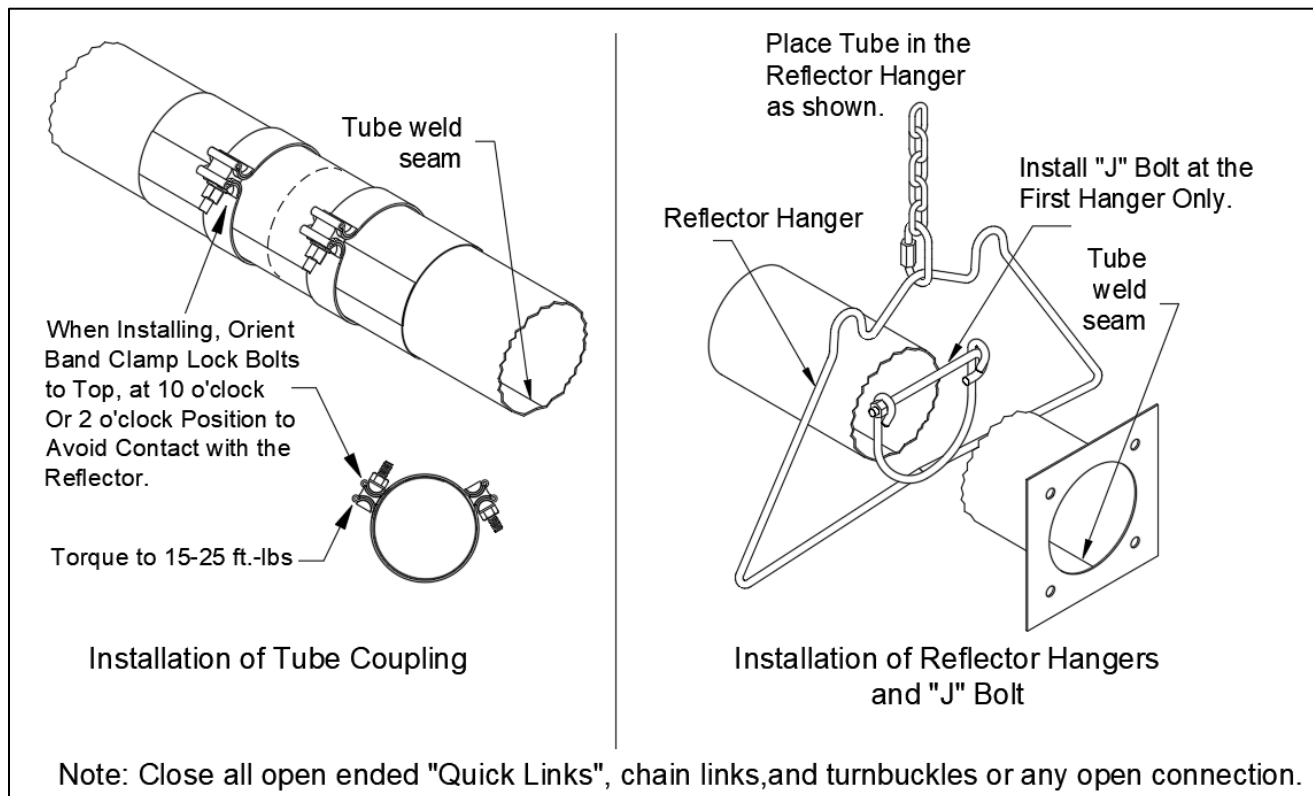

Figure 8: “J” Bolt and Coupling Installations
- Tighten the cradle loops of the first hanger with the “J” Bolt found in the burner box, to snugly hold the combustion tube from rotating see Figure 8.
Note: In order to obtain smoothly sealed coupling liners, tighten each of the coupling bands progressively and alternately. Tightening one band completely before the other may result in an undesirable wrinkle in the liner (refer to Figure 8). **Be sure not to over torque the coupling. (Torque coupling to 15-25 lbf-ft).**